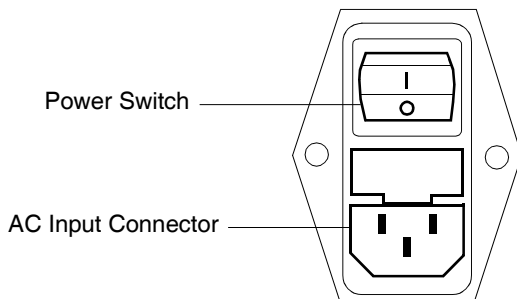

Figure 2-4 Connecting the Power Cord
1. Make sure that the power switch is in the 0 (off) position (Figure 2-4).